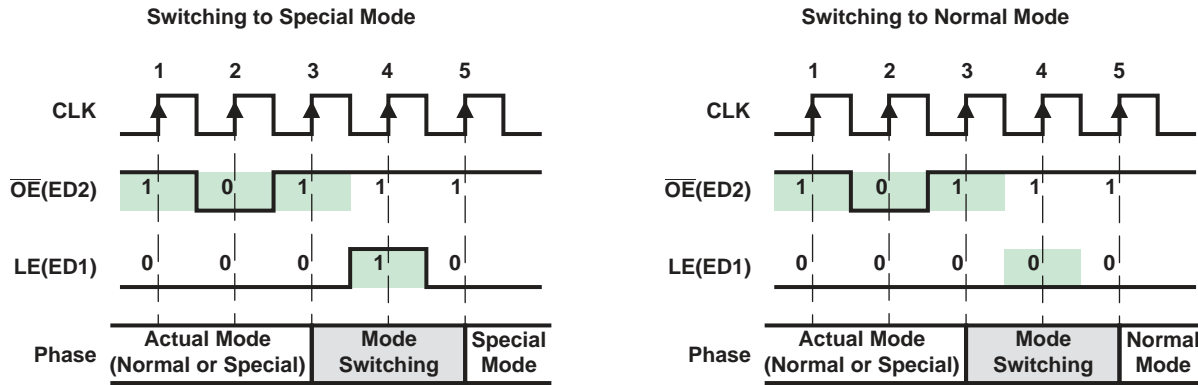

Figure 16. Mode Switching
To switch between its two modes, TLC591x monitors the signal $\overline{OE}(ED2)$. When an one-clock-wide pulse of $\overline{OE}(ED2)$ appears, TLC591x enters the two-clock-period transition phase, the Mode Switching phase. After power on, the default operation mode is the Normal Mode (see Figure 16).
As shown in Figure 16, once a one-clock-wide short pulse (101) of $\overline{OE}(ED2)$ appears, TLC591x enters the Mode Switching phase. At the fourth rising edge of CLK, if LE(ED1) is sampled as voltage high, TLC591x switches to Special Mode; otherwise, it switches to Normal Mode. The signal LE(ED1) between the third and the fifth rising edges of CLK cannot latch any data. Its level is used only to determine into which mode to switch. However, the short pulse of $\overline{OE}(ED2)$ can still enable the output ports. During mode switching, the serial data can still be transferred through SDI and shifted out from SDO.